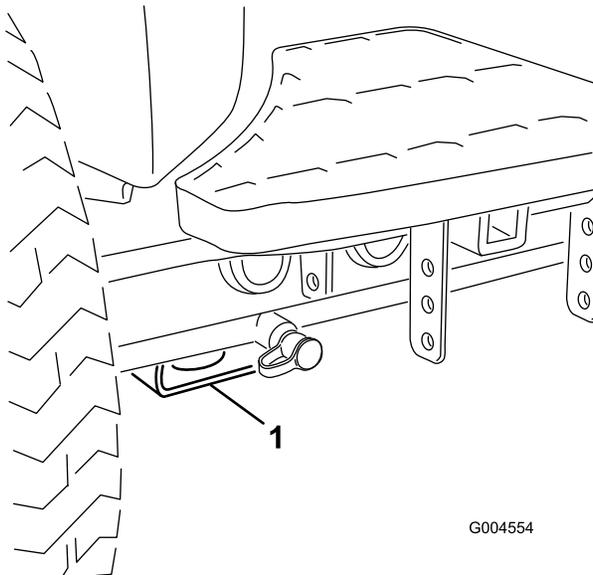

Figure 57
- Front—rectangular pad, under the axle tube, inside each front tire (Figure 57).